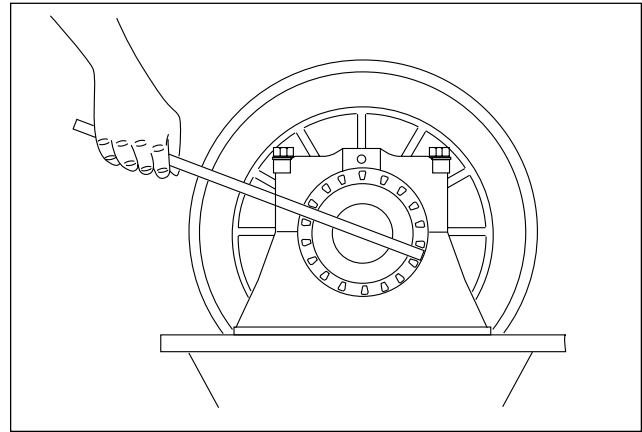

Figure 11
4. Install adjusting rings. Tighten both adjusting rings until end play is eliminated and there is backlash between the ring gear and pinion. See Figure 11.